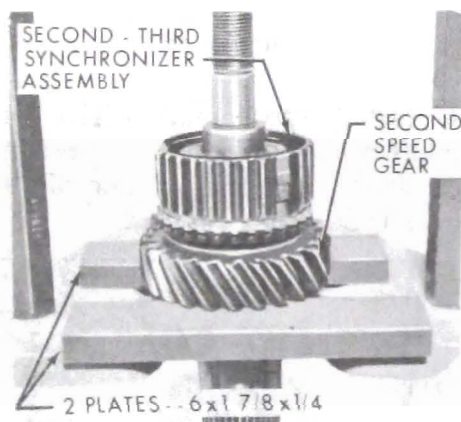

Figure 72-17 - Removing Second-Third Speed Synchronizer Assembly
8. Support second speed gear on press plate using two (2) pieces of stock 6x1-7/8x1/4. See Figure 72-17.